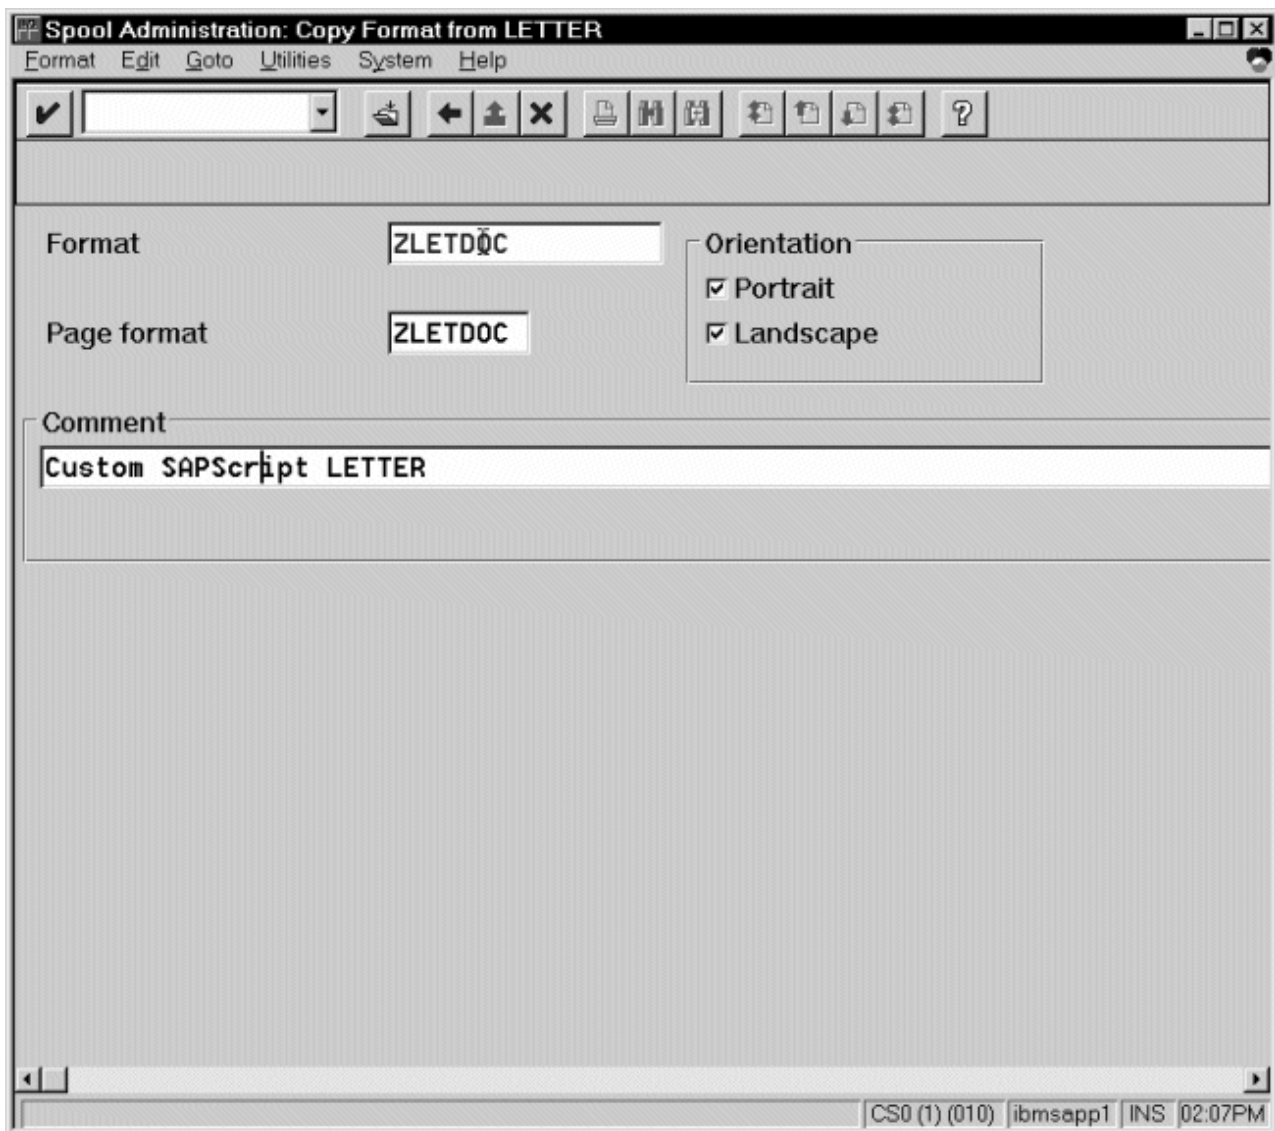

Figure 53. Spool Administration: Copy Format from LETTER window
9. From the **Spool Administration: Copy Format from LETTER** window, fill in the values as displayed in Figure 53: